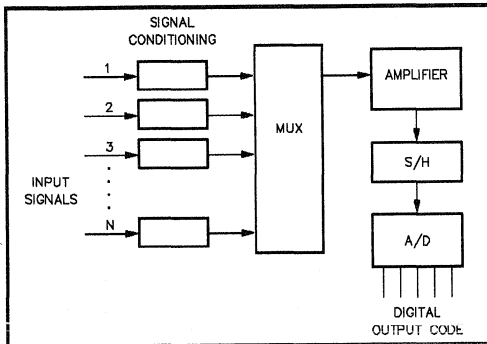
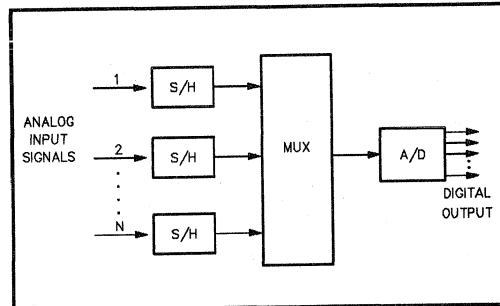

FIGURE 4.2. A Complete Analog Input Subsystem.
FIGURE 4.3. Simultaneous Sample & Hold Systems.
**Multiplexers** - The multiplexer (Mux) shown in Figure 4.2 is simply a switch arrangement that allows many input channels to be serviced by one amplifier and A/D. Software can control these switches to select any one channel for processing at a given time. This approach offers considerable cost savings over separate amplifiers and A/Ds. Since the amplifier and A/D are being shared, the speed of analog acquisition will be reduced. To a first approximation, the rated "speed" of the amplifier and A/D will be divided by the number of input channels serviced. "Throughput" is often defined as the "single-channel speed" multiplied by the number of channels.
**Time Multiplexing** - The system described in Figure 4.2 shares the amplifier, S/H and A/D converter between the various input channels. The user selects the desired sample rate to fit the given application. If each channel is to be read "R" times per second, then the Mux must scan at "n" times this rate (where "n" is the number of channels to be read). Clearly, the
The simultaneous sample/hold architecture is ideal for applications in which the phase and time relationships of multiple input channels are critical to the given investigation. For example, if the system in Figure 4.2 were sequentially scanning four analog inputs at a throughput of 89K samples/second, the time elapsing between conversions would be 11.25 microseconds. About 45 microseconds will be required to digitize all four channels. This represents a 162-degree phase shift between the first and fourth channel at a 10kHz signal frequency ( $45\mu s / 100\mu s \cdot 360 \text{ deg}$ ). In contrast, the simultaneous sample/hold system in Figure 4.3 can capture all four channels within about 10 nanoseconds of each other, representing a phase shift of less than 0.04 degrees at 10kHz.